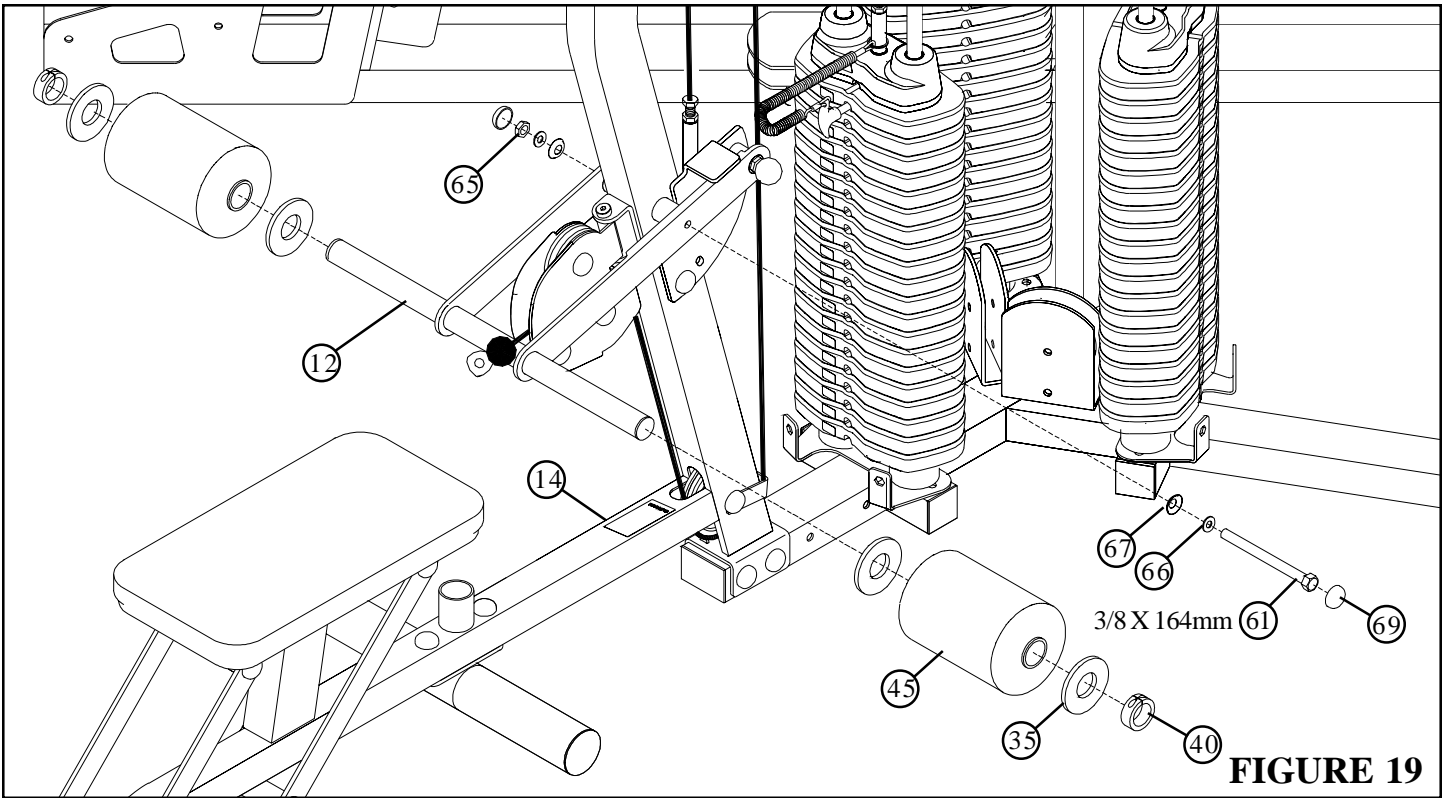

FIGURE 19
- **SECURELY** assemble the KNEE HOLD DOWN (12) to the LAT/LOW FRAME (14) using two RH CAPS (69), one 3/8 X 164mm BOLT (61), two 3/8 SAE WASHERS (66), two 3/8 RH WASHERS (67) and one 3/8 LOW HEIGHT LOCK NUT (65) as shown in FIGURE 19.
- Assemble two ROLLER PADS (45) and four 2-3/8 OD PLASTIC WASHERS (35) to the KNEE HOLD DOWN (12) using two 1-1/4 SHAFT COLLARS (40) as shown in FIGURE 19.